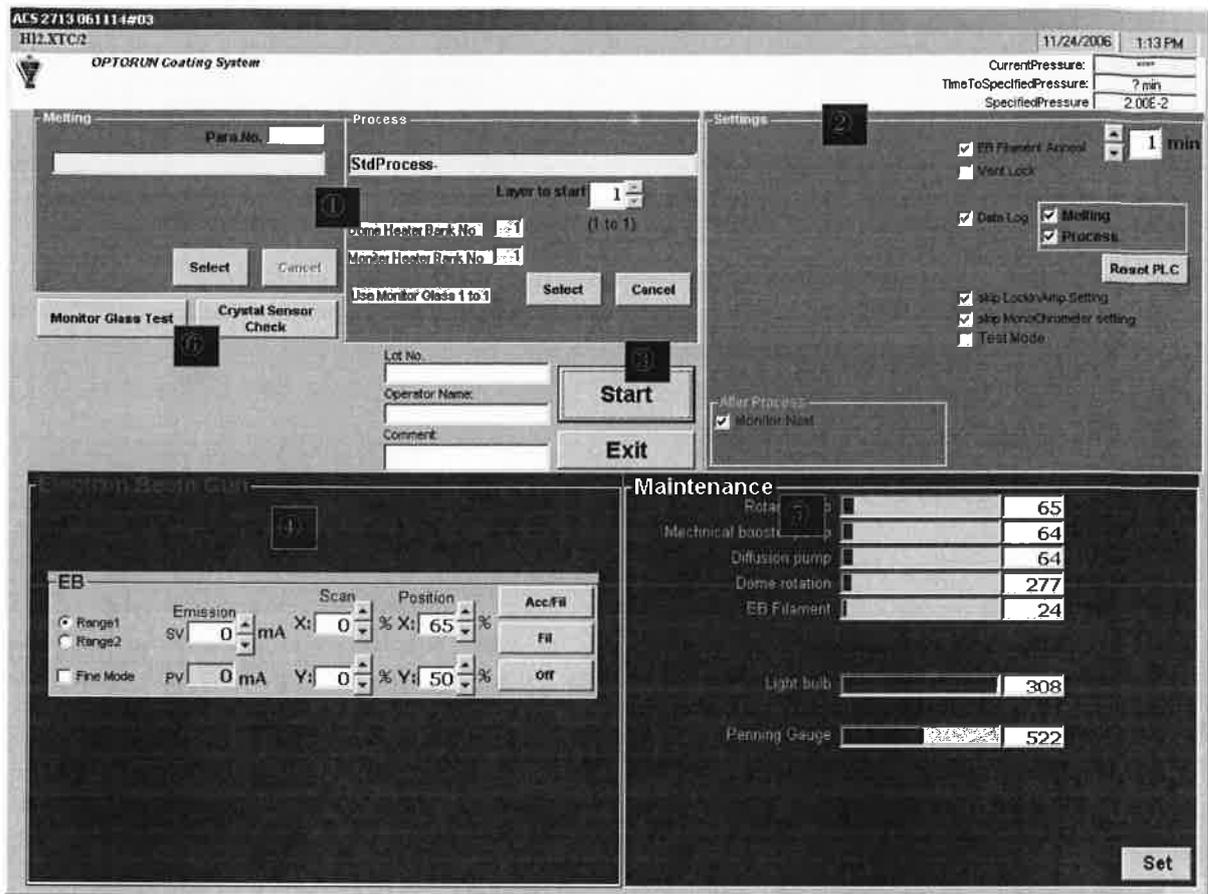
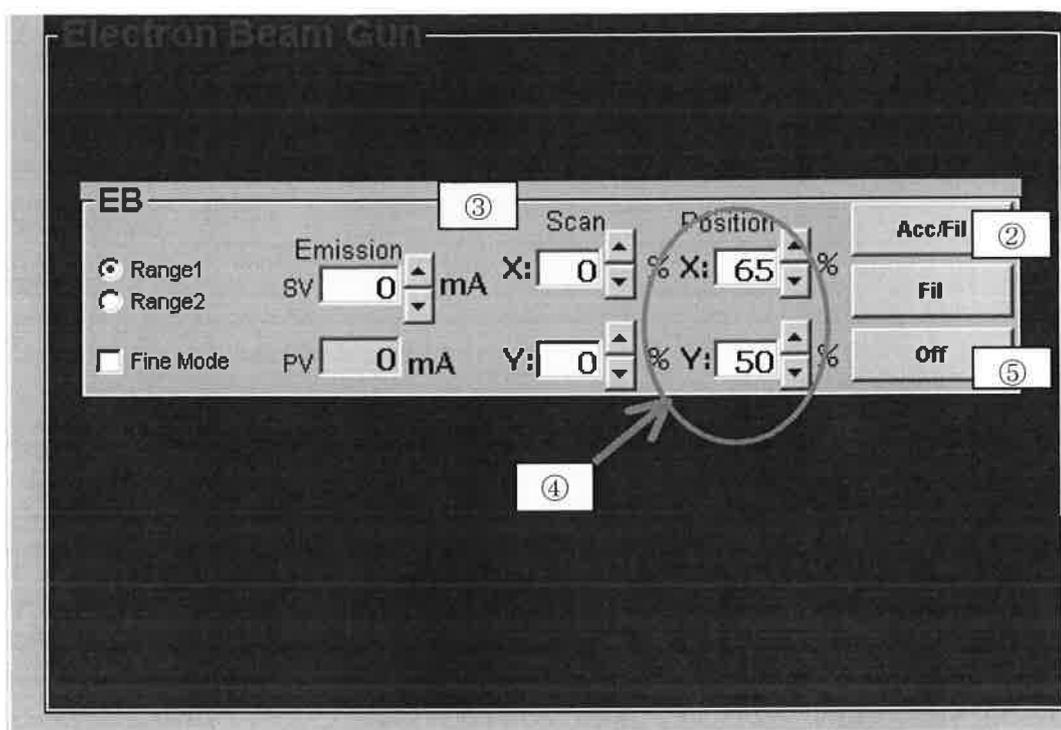

Fig. 1 Main User Interface
Fig. 6 EB Section – EB Tuning
The following Fig. 1 is the main user interface of ACS, which is the one that immediately after starting up.
Description of the Main User Interface (Fig. 1):
EB operation can be performed through EB Section in the Main User Interface (Fig. 1). Fig. 6 is an enlarged view of Fig. 1
By changing EB Scan and position on EB section of main user interface (Fig. 1), through which EB status tuning can be realized.
■ Steps (Fig. 6)
- ① The “EXT-INT” switch on EB controller panel must be turned to “EXT” (which is the required normal status for automatic control with ACS system).
- ② Press  button. EB ACC and Filament will be turned on.
- ③ Beside *SV* and under *Emission* label, there is a Up/down button , by which EB emission's SV (setting value) can be changed.
- ④ Click the X Position and Y Position  button to tune the actual position status of the spot. Usually this is an alternative process between tuning and viewing (checking) the emission sparking spot.
- ⑤ If tuning process is over, click  button to reset EB emission to zero.